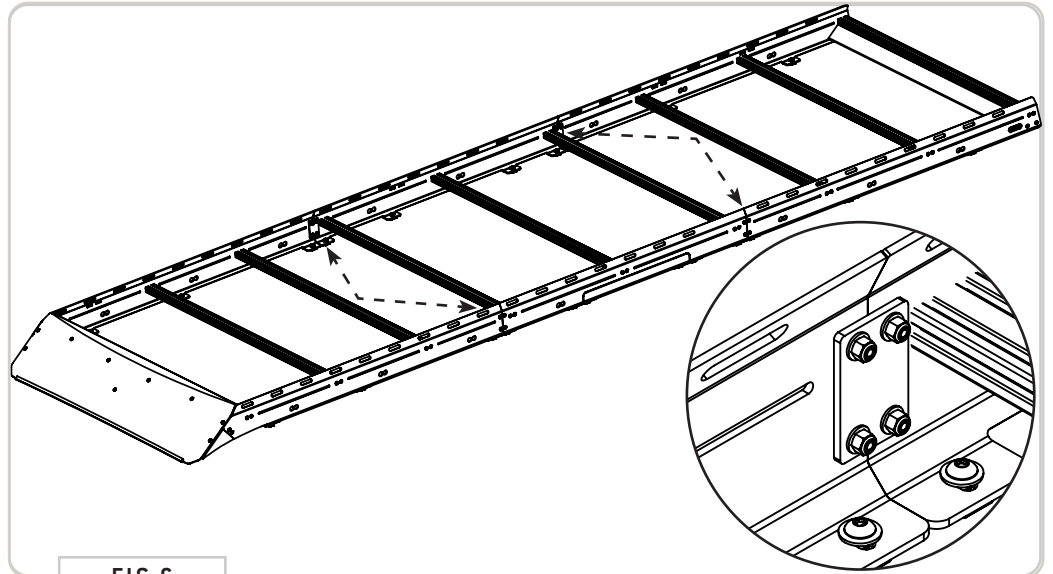
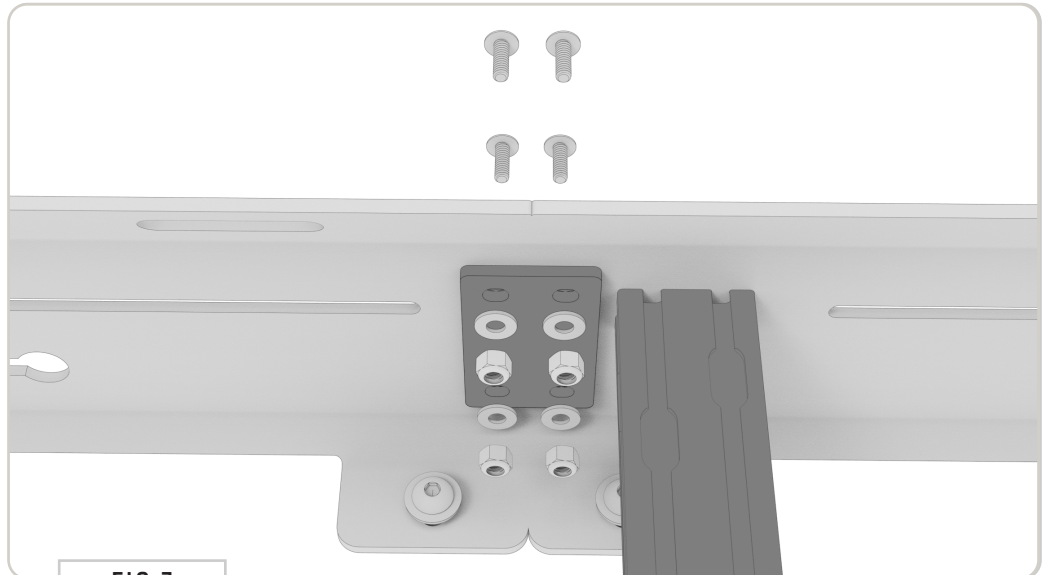

FIG 6
FIG 7
2.2 Side Rail Connecting Plates: Install the **Side Rail Connecting Plates** to the locations shown in FIG 6 using (4ea) 1/4-20 x 0.75 Flanged Button Head Screws, Flat Washers and Nylon Locknuts to loosely join the Side Rails together (FIG 7).